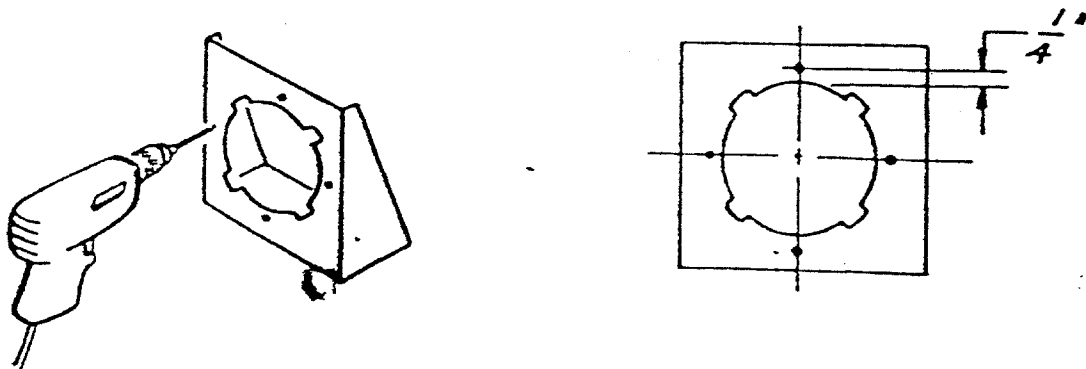

FIG. 9
19. Install the starter heat shield on the starter motor as follows: Loosen the lower starter motor thru-bolt 3-4 turns. Make sure the outer solenoid coil bolt is snug. Place a 5/16" I.D. x 3/4" O.D. flat washer over the stud end of the upper starter motor thru-bolt. Hook the starter heat shield onto the end of the outer solenoid bolt and slide the front of the shield onto the two thru-bolts. The shield goes under the loosened head of the lower bolt and over the washer on the upper bolt. See fig. 9.